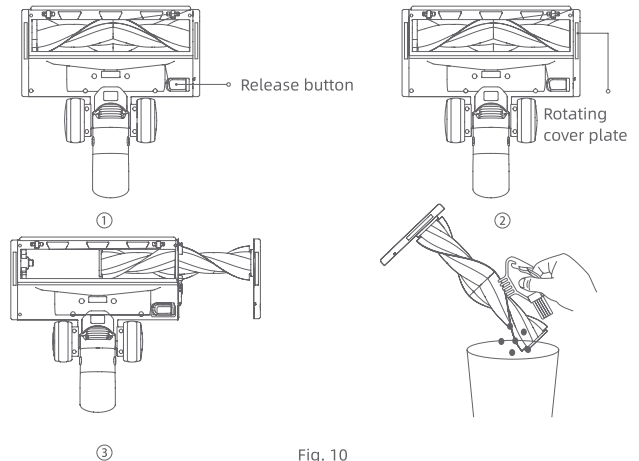

Fig. 10
- ①. Pull the release button to unlock the rotating cover plate.
- ②. Spin down and remove the roller brush fixing cover plate.
- ③. Lift up one end of the roller brush, and then, pull out the roller brush (note: some dust will fly out in this process).
- ④. Tear off the hair, animal hair or debris from the roller brush and dust it off.
- ⑤. Reverse the process, push one end of the cleaned (or new) roller brush with the spindle into the electric floor brush first, then clip the other end into the electric floor brush, close the fixing cover plate and lock it in place. (Fig. 10)